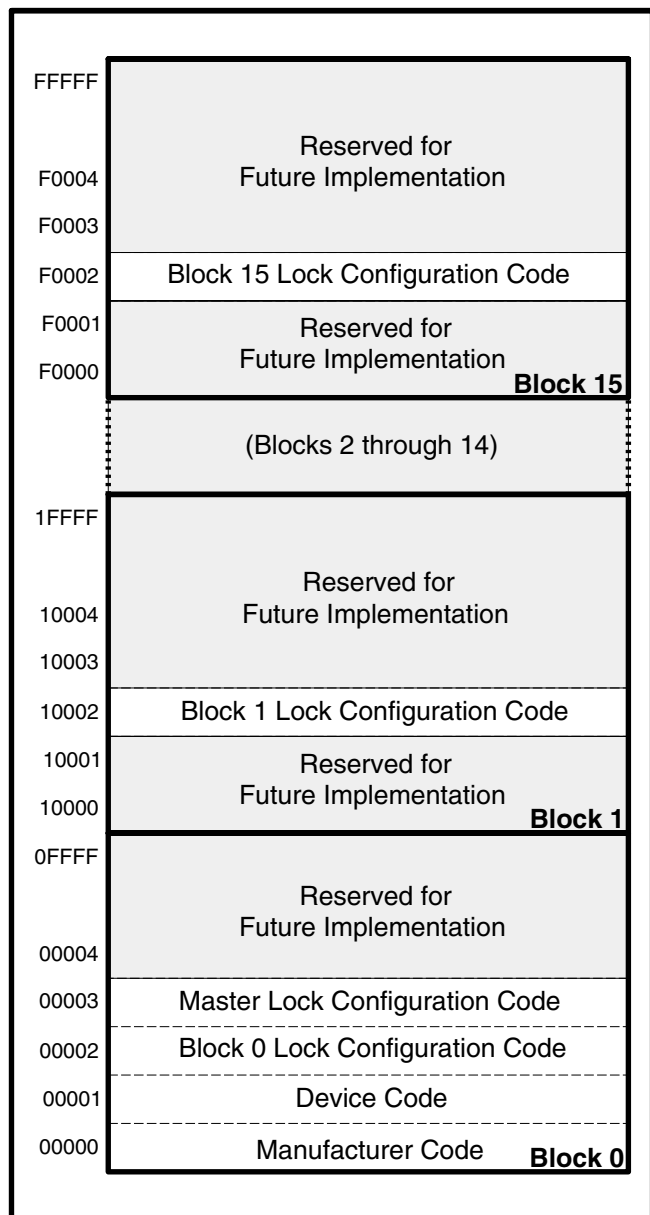

Figure 4. Device Identifier Code Memory Map
The read identifier codes operation outputs the manufacturer code, device code, block lock configuration codes for each block, and the master lock configuration code (see Figure 4). Using the manufacturer and device codes, the system CPU can automatically match the device with its proper algorithms. The block lock and master lock configuration codes identify locked and unlocked blocks and master lock-bit setting.
IA=Identifier Code Address: see Figure 4.
The identifier code operation is initiated by writing the Read Identifier Codes command. Following the command write, read cycles from addresses shown in Figure 4 retrieve the manufacturer, device, block lock configuration and master lock configuration codes (see Table 5 for identifier code values). To terminate the operation, write another valid command. Like the Read Array command, the Read Identifier Codes command functions independently of the  $V_{PP}$  voltage and RP# can be  $V_{IH}$  or  $V_{HH}$ . Following the Read Identifier Codes command, the following information can be read:
1. X selects the specific block lock configuration code to be read. See Figure 4 for the device identifier code memory map.